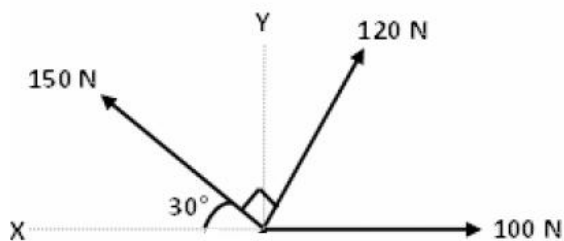

Fig. 1
| | (b) Determine resultant of coplanar concurrent force system shown in fig.1 | 04 |
| Q.3 | (a) Determine resultant of coplanar concurrent force system shown in fig.1 using graphical method. | 03 |
- (a) Define: (1) Shear Force (2) Bending Moment (3) Points of contra flexure. 03
- (c) Draw shear force diagram and bending moment diagram for a beam shown in fig.1 07